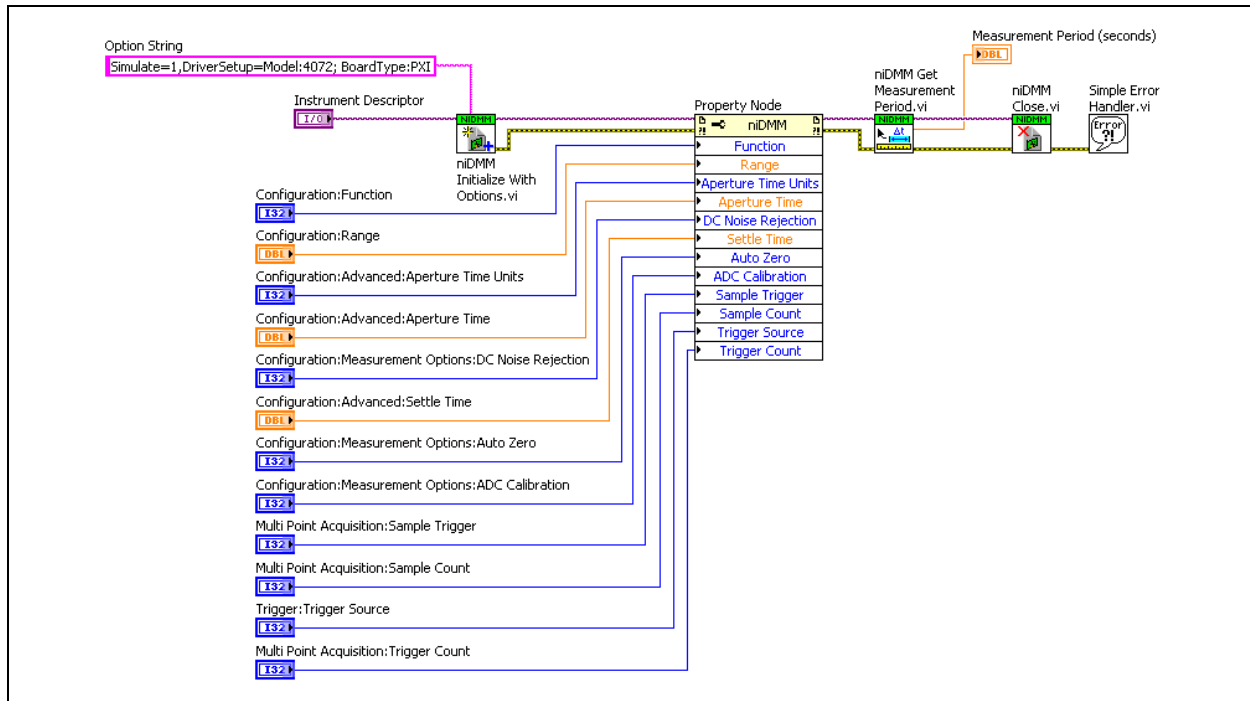

Figure 3-6. Advanced Multi-Point Benchmark VI Block Diagram
2. Modify the block diagram as shown in Figure 3-6.